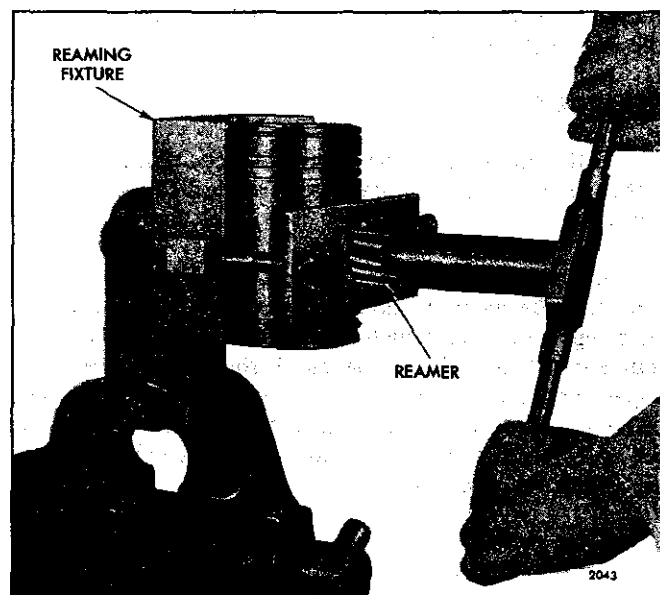

Fig. 7 – Reaming Piston Pin Bushings
- a. Clamp the reaming fixture J 5273 in a vise (Fig. 7). Then, insert the guide bushing J 4970-5 in the fixture and secure it with the set screw.
- d. Ream the bushings (Fig. 7). Turn the reamer in a clockwise direction only, when reaming or withdrawing the reamer. For best results, use only moderate pressure on the reamer.